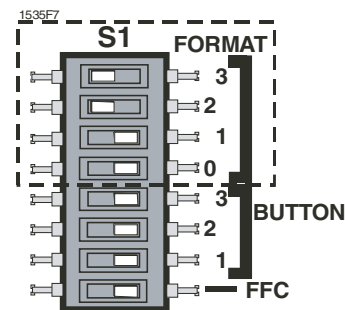
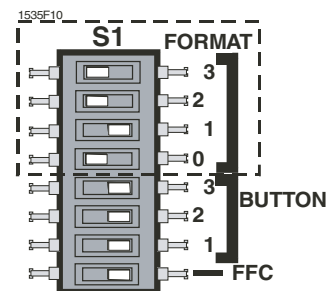

Figure 2: 30-bit DIP Switch Setting
Figure 3: 26-bit DIP Switch Setting
- (1) Use a grounding strap OR
- (2) Touch a cold, grounded, metallic pipe.
4. The output code format switch settings are factory-set for the 30-bit format (Figure 2). To change the settings to 26-bit, refer to Figure 3.